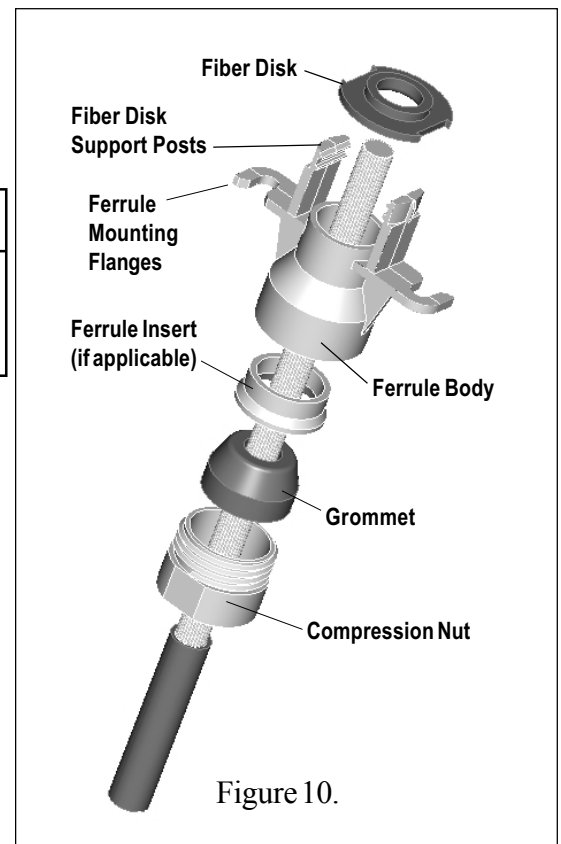

Figure 10.
4. Slide the compression nut, grommet, ferrule insert (if applicable), and then ferrule body onto the fiber bundle. See Figure 10. Leave about 2 to 3 inches of fiber sticking out past the two posts on the top of the ferrule. For ColorContrast, the smaller bundle should extend an inch further, about 3 to 4 inches.